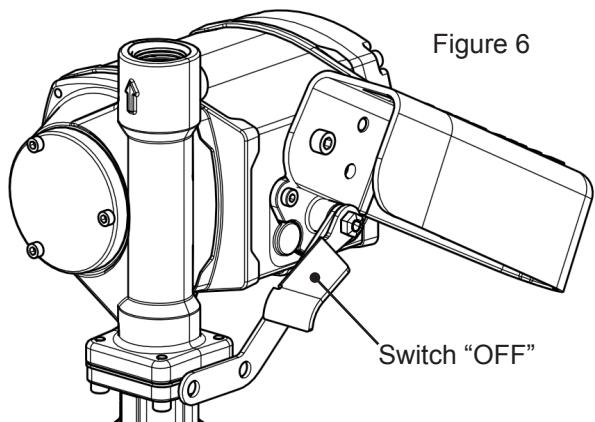

Figure 6
6. Move switch lever to the “OFF” (lowered) position (Figure 6) to stop the motor.